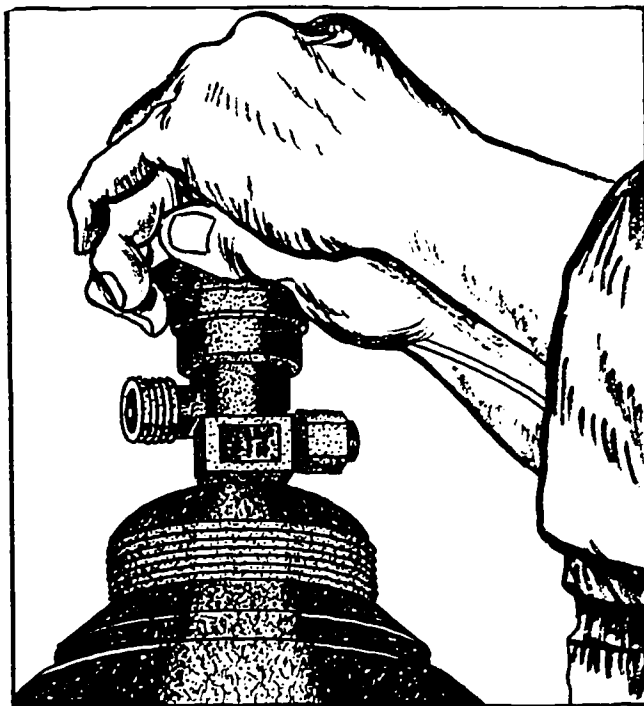
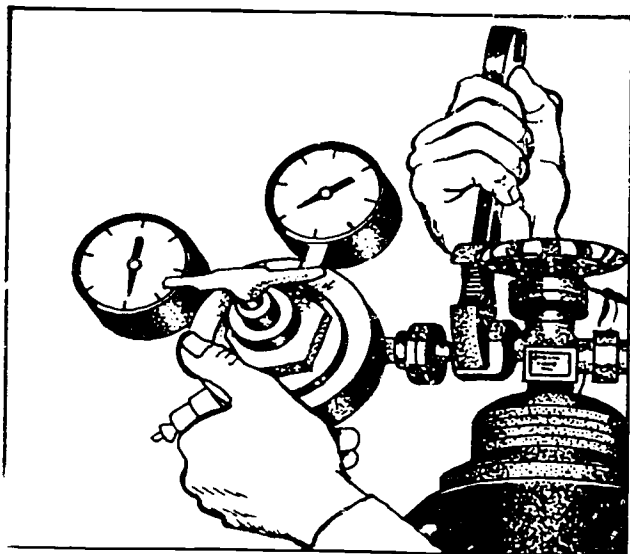

Figure 1-6. Cracking a valve.
Figure 1-7. Tightening the union nut.
**Assembling Portable Equipment.** To assemble portable equipment, place the acetylene and oxygen cylinders on the cart, secure them, and remove the cylinder valve protective caps. Open (crack) each cylinder valve slightly for an instant to blow out any dirt lodged in the outlet nipple (see fig. 1-6). Attach the two-stage regulators to their respective cylinders and tighten the union nut with the torch wrench, as shown in figure 1-7.